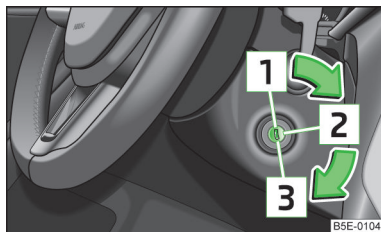

Fig. 115
- When driving without the engine running, the ignition key must always be in the position  » Fig. 115 on page 120 (ignition switched on). This position is indicated by the illumination of certain indicator lights in the instrument cluster.
- The starter must only be operated when the engine is not running and the vehicle is at a standstill. The starter or engine may be damaged if the starter is activated when the engine is running  » Fig. 115 on page 120.
Petrol engines » Fig. 115
Diesel engines » Fig. 115
If the **steering is locked** and it is impossible or difficult to turn the key into position **2** » Fig. 115, move the steering wheel back and forth to unlock the steering.
- Switch on the ignition **2** » Fig. 115 on page 120.
Switch off the engine by turning the ignition key into position **1** » Fig. 115 on page 120.